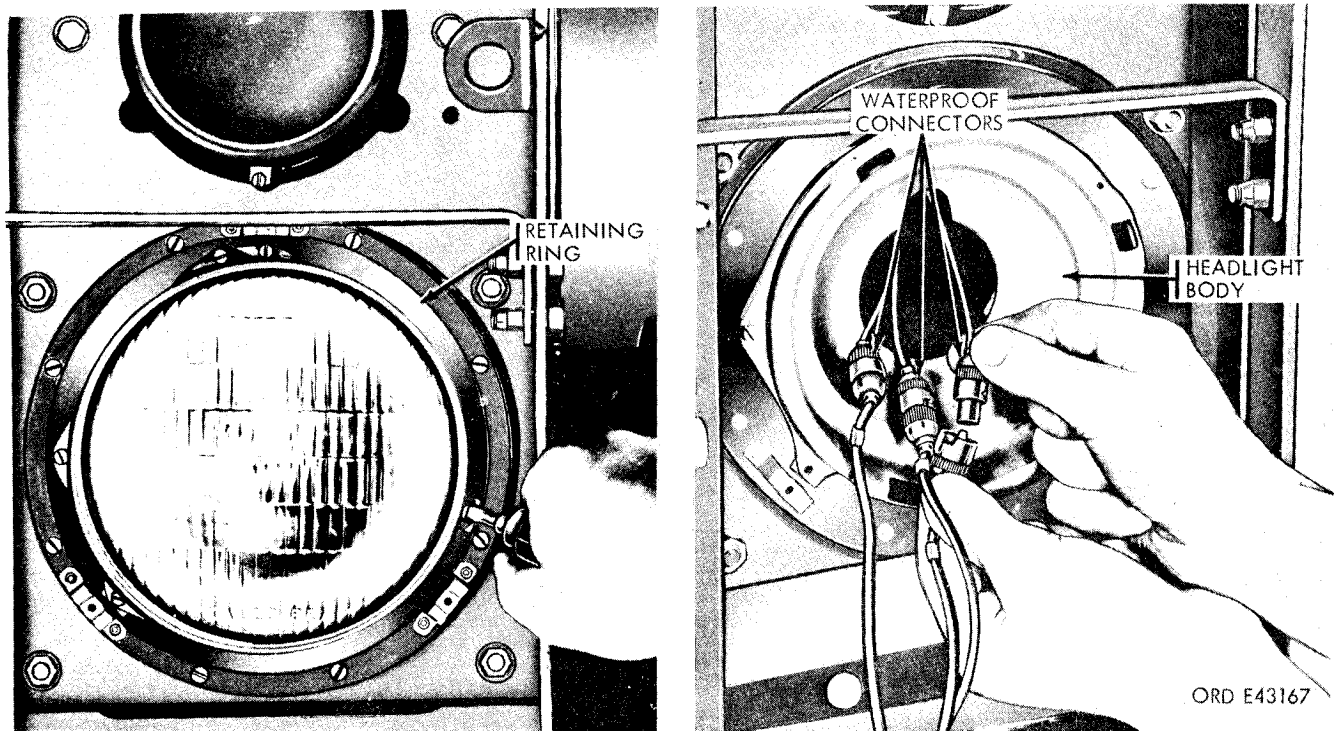

Figure 2-155. Removing headlight retaining ring and sealed-beam lamp unit.
(2) Remove the three screws attaching the retaining ring (fig. 2-155) to the headlight body, and remove the ring.
(3) Pull the sealed-beam lamp unit from headlight body, and disconnect the cables at the waterproof connectors (fig. 2-155).
(1) Connect the three cables at the waterproof connectors (fig. 2-155), and position the lamp unit in the headlight body.
(2) Position the retaining ring (fig. 2-155), and secure it with three screws.